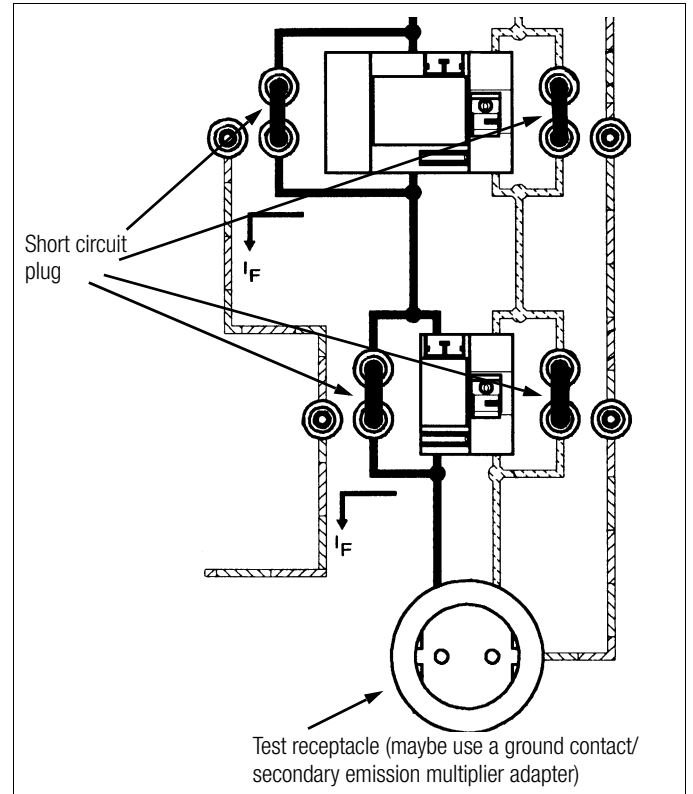

figure 6.2-1
- ⇨ Switch off both fault current switches and bridge them with the short circuit plugs, siehe figure 6.2-1.
- ⇨ Bridge the FI switches [figure 6.2-1].